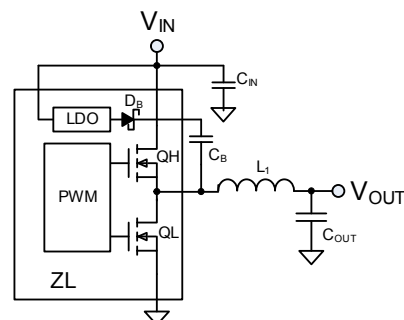

FIGURE 10. SYNCHRONOUS BUCK CONVERTER
Figure 10 illustrates the basic synchronous buck converter topology showing the primary power train components. This converter is also called a step-down converter, as the output voltage must always be lower than the input voltage.
The gate drive voltage for the high-side MOSFET driver is generated by a floating bootstrap capacitor, C_B (see Figure 10). When the lower MOSFET (QL) is turned on, the SW node is pulled to ground and the capacitor is charged from the internal VR bias regulator through diode D_B. When QL turns off and the upper MOSFET (QH) turns on, the SW node is pulled up to VDDP and the voltage on the bootstrap capacitor is boosted approximately 6.5V above VDDP to provide the necessary voltage to power the high-side driver. An internal Schottky diode is used with C_B to help maximize the high-side drive supply voltage.